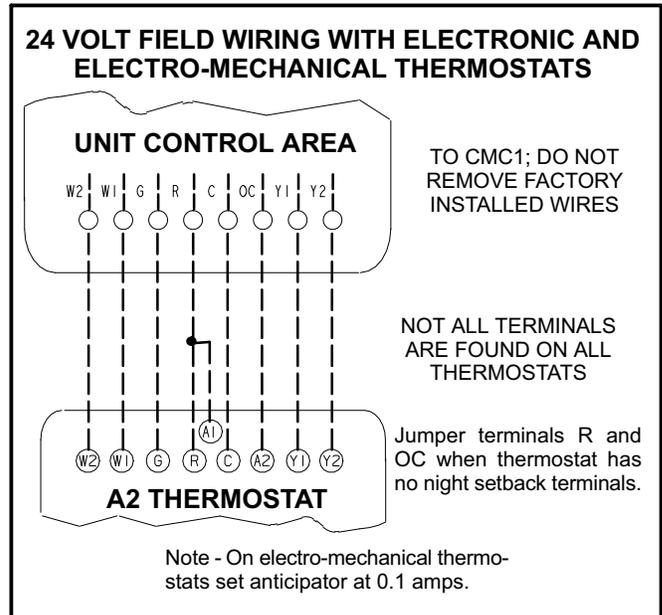

FIGURE 8
- Connect thermostat wiring to low voltage leads in control box. Wire as shown in figure 8 for electro-mechanical and electronic thermostats. If using other temperature control devices or energy management systems see instructions and wiring diagram provided by manufacturer.